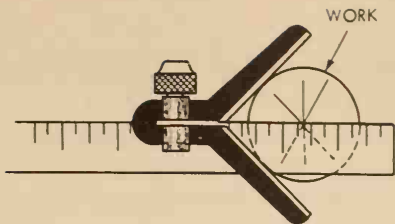
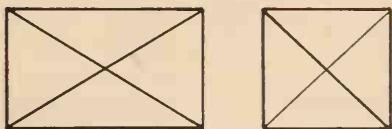

Fig. 9-11. Locating the center of round stock.
Fig. 9-12. Locating the center of square and rectangular stock.
1. Carefully locate the center on both ends of the stock to be turned. The center of round stock may be located using the centerhead of the combination set, Fig. 9-11. Rectangular and square pieces are easily centered by drawing diagonal lines, Fig. 9-12.